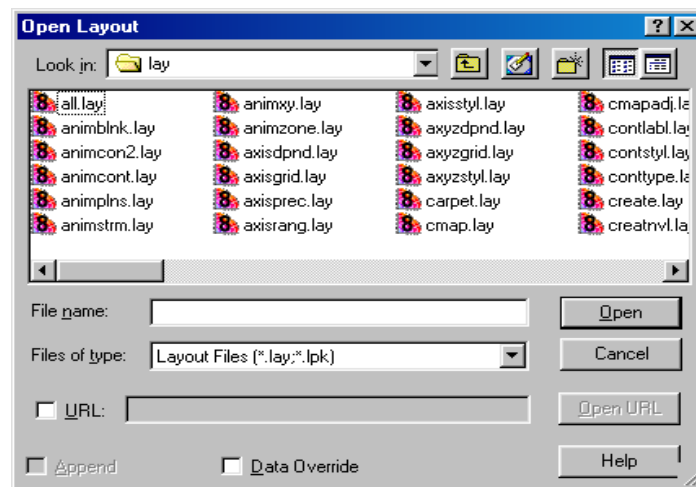

Figure 2-19. The Open Layout dialog in Windows.
2.2.6.2. Working with File Dialogs in Windows. Figure 2-19 shows a typical Windows file dialog—the Open Layout dialog. In the lower half of the dialog is a text field labeled File